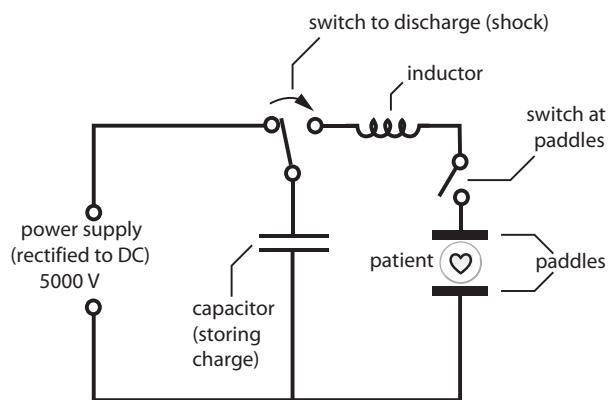

Figure 21.4. A simplified circuit diagram of an external defibrillator.
The external defibrillator is designed to deliver a controlled shock through a pair of paddles held on the patient's chest, or via self-adhesive contact electrodes. *Figure 21.4* shows a circuit diagram of an external defibrillator. The defibrillator contains a large capacitor that is charged with a prescribed voltage. The capacitor has to be charged with a direct current (DC) that is obtained by passing the AC mains supply through a rectifier. A transformer steps-up the voltage from 240 V to a value in the